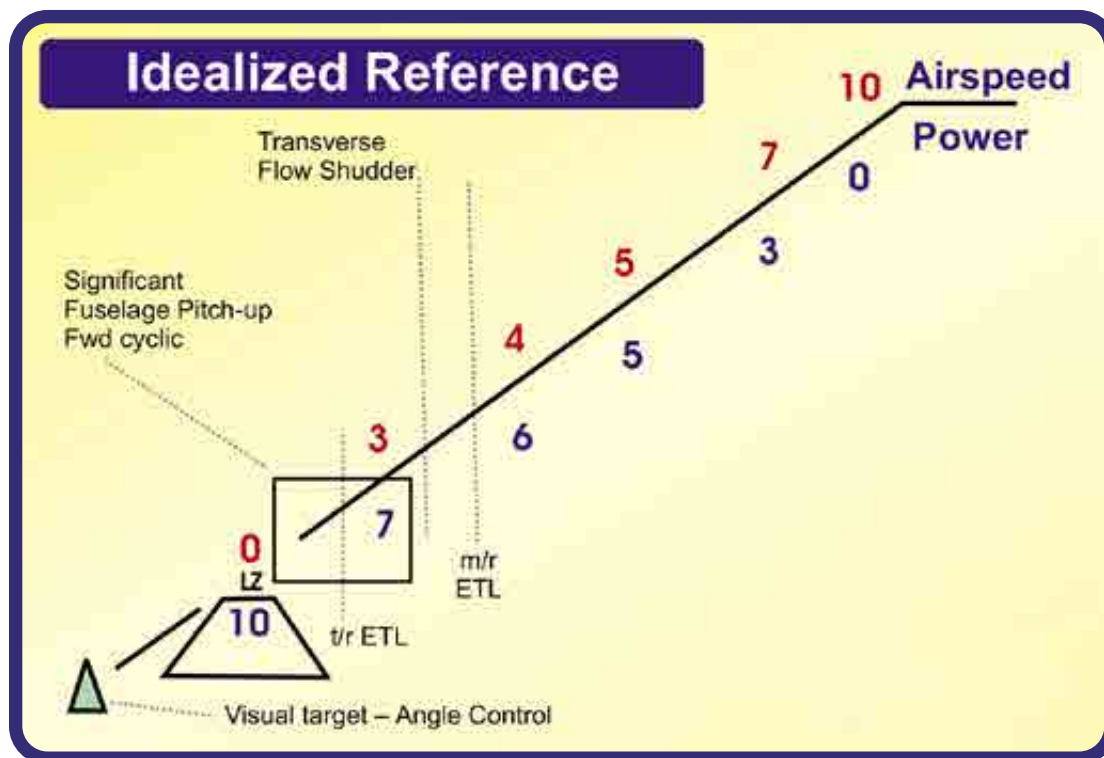

Figure 1
The following diagram (Figure 1 below) conceptualizes a precision approach. The relationship of airspeed to power is seen to require a continuous proration throughout the approach—as
- power applied too late, or the aerodynamic issues in Figure 1 on page 20 were not anticipated requiring reactive over controlling. Focusing on power in every maneuver breeds the necessary habits and awareness required for the current deployments and those to come.